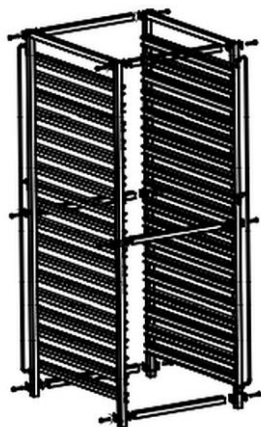

Fig. 1
5. Mount six struts on the second lateral section, using square washers and round pointed screws, as described above (Fig. 1).